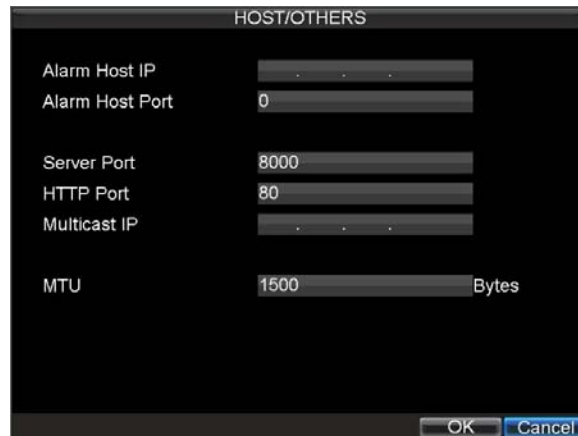

Figure 9. Host/Others Menu
3. Click the *Set* button next to **Host/Others** to enter the Host/Others menu, as shown in Figure 9.